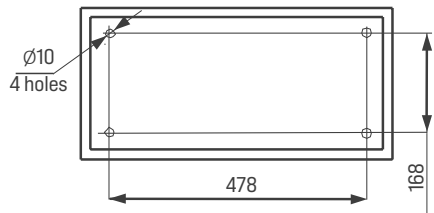

Fig. 7
3) Mounting of the floor-mounted Fire Valve Cabinet PRESTIGE with typical size O3 (Figure 3) is carried out through the holes in the base of the stand of the cabinet 12. The holes position is specified in Figure 7.